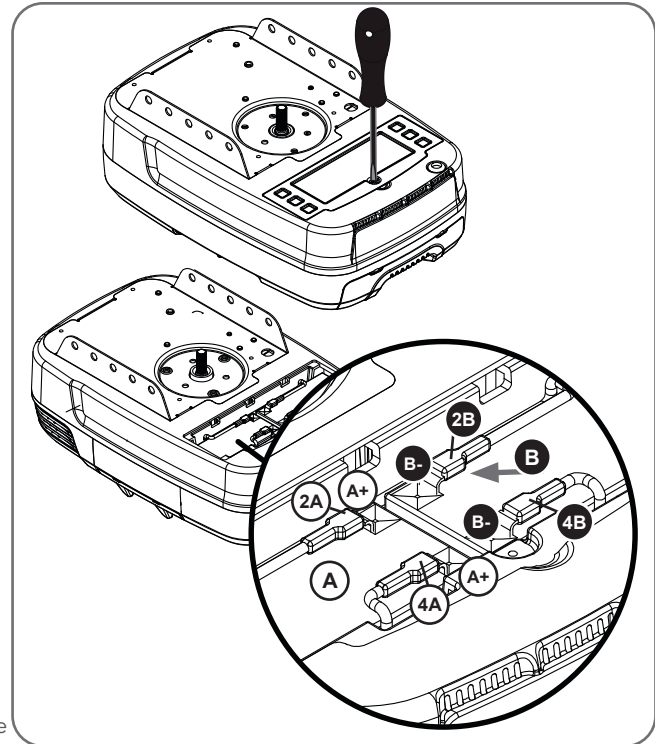

Fig.6.7.1
a. Remove the screw and open the cover to the batteries. (Fig.6.7.1)